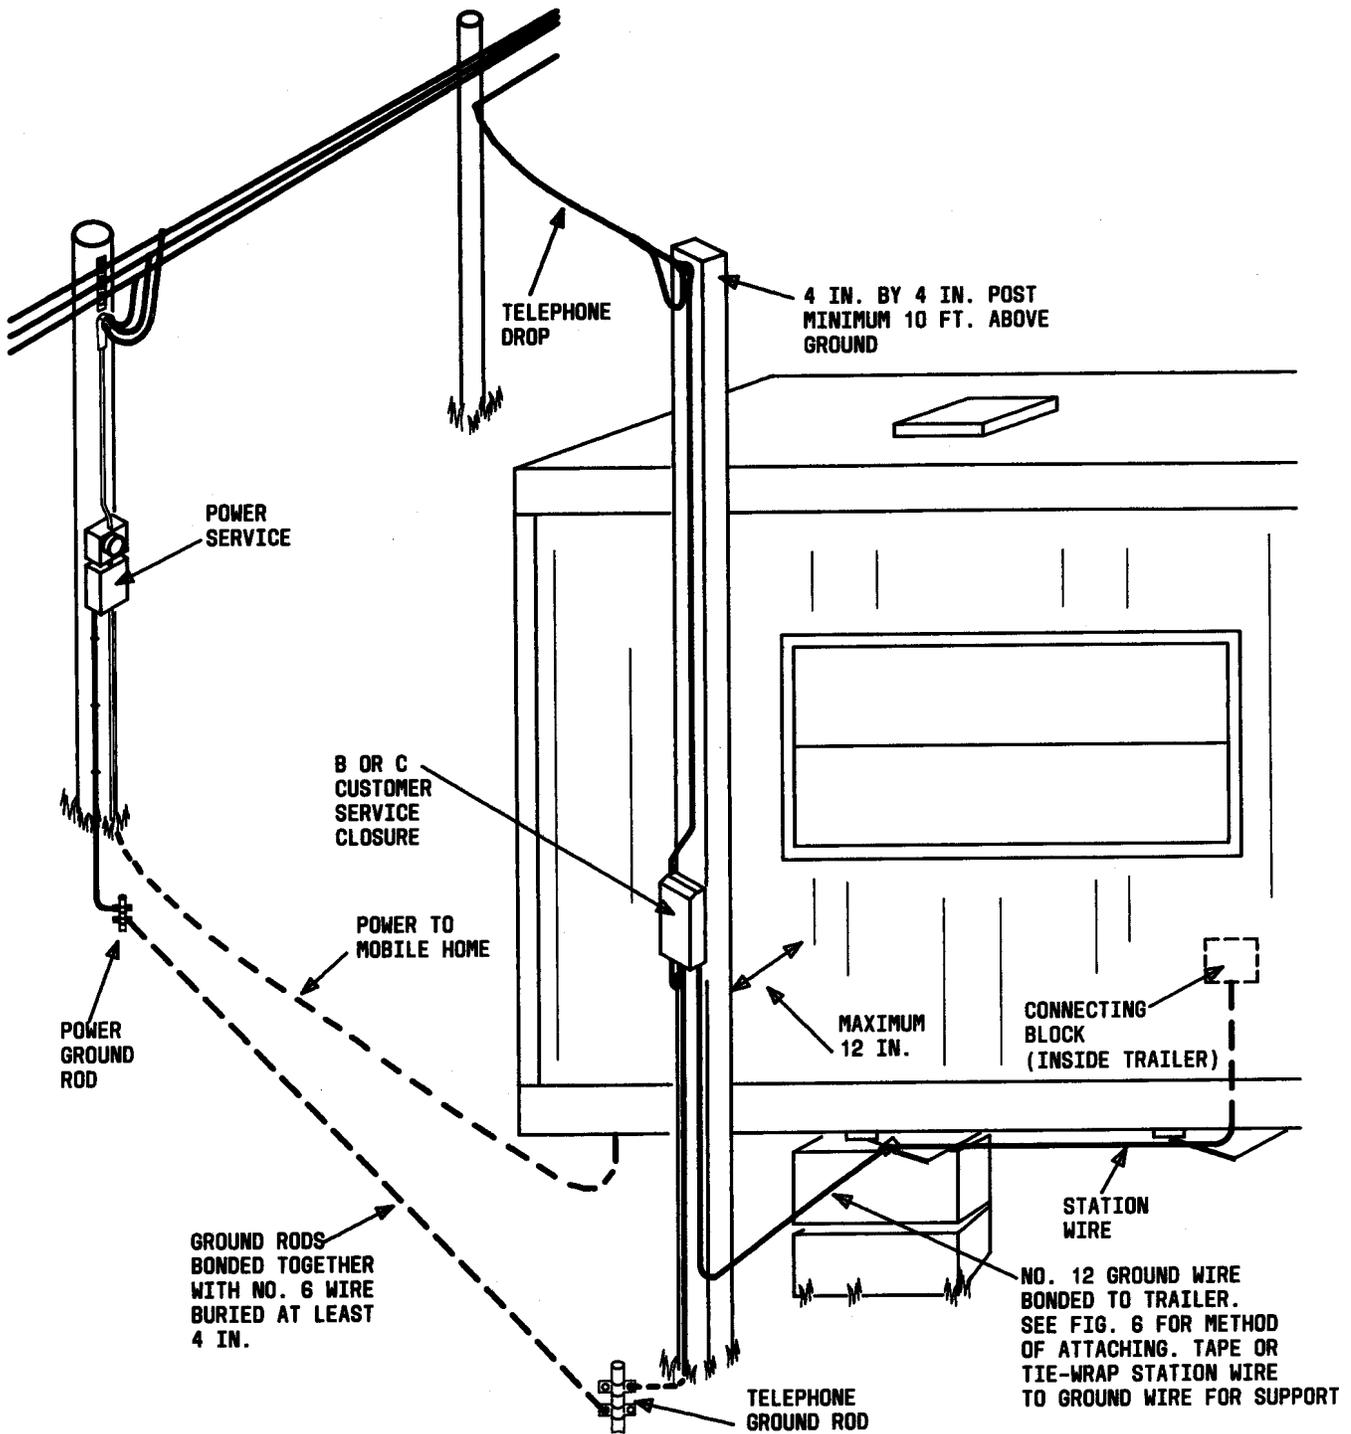

Fig. 4—Aerial Service—Protector Located Within 12 Inches of Mobile Home—Separate Bonded Power and Telephone Grounds
4.04 Separate grounding electrodes should always be bonded together to limit potential differences between them and between their associated wiring systems. Whenever separate communication and power grounding electrodes are used, they should be bonded together with a No. 6 ground wire that is buried deep enough to protect it from physical damage (Fig. 4).